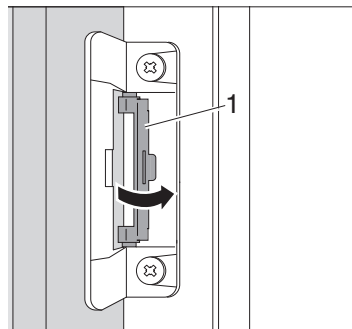

Fig. 346 Turning the latch back to the initial position
- Turn the latch (Fig. 346,1) back to the initial position.